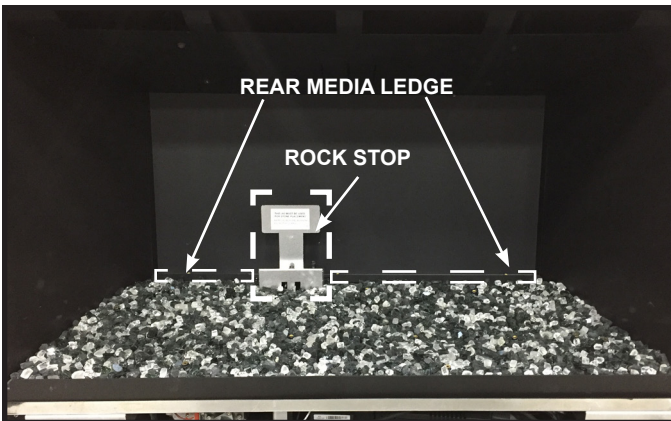

Figure 3. Glass Media Installed
11. Install glass media. When using multiple media colors, mix them prior to installation. For optimal performance and flame appearance, ensure it is spread evenly. See Figure 3.